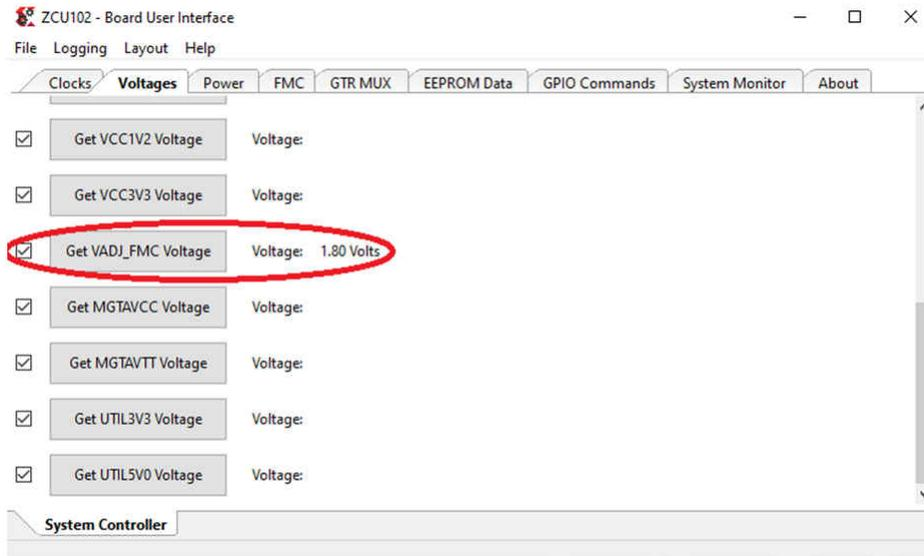

Figure 15-3. VADJ_FMC Voltage
4. Confirm the same by reading the VADJ_FMC voltage. The voltage value must be 1.80 V (see Figure 15-3).